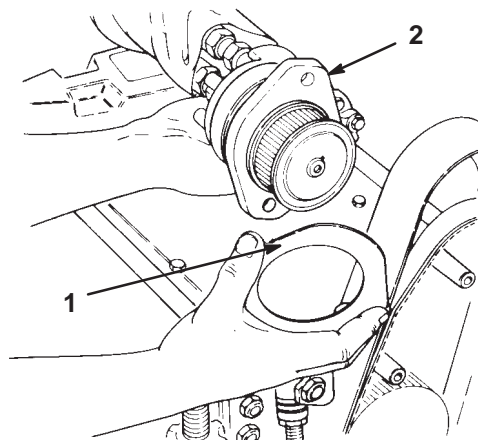

Figure 10
2. Discard shipping cover and install the drive plate shield onto the reel drive motor flange (Fig. 10). Be sure the widest portion of the shield is at the top.